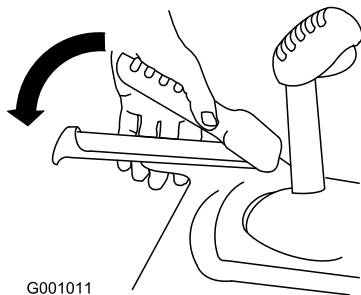

Figure 20
1. To engage the traction drive, squeeze the left (traction) lever to the handgrip (Figure 20).